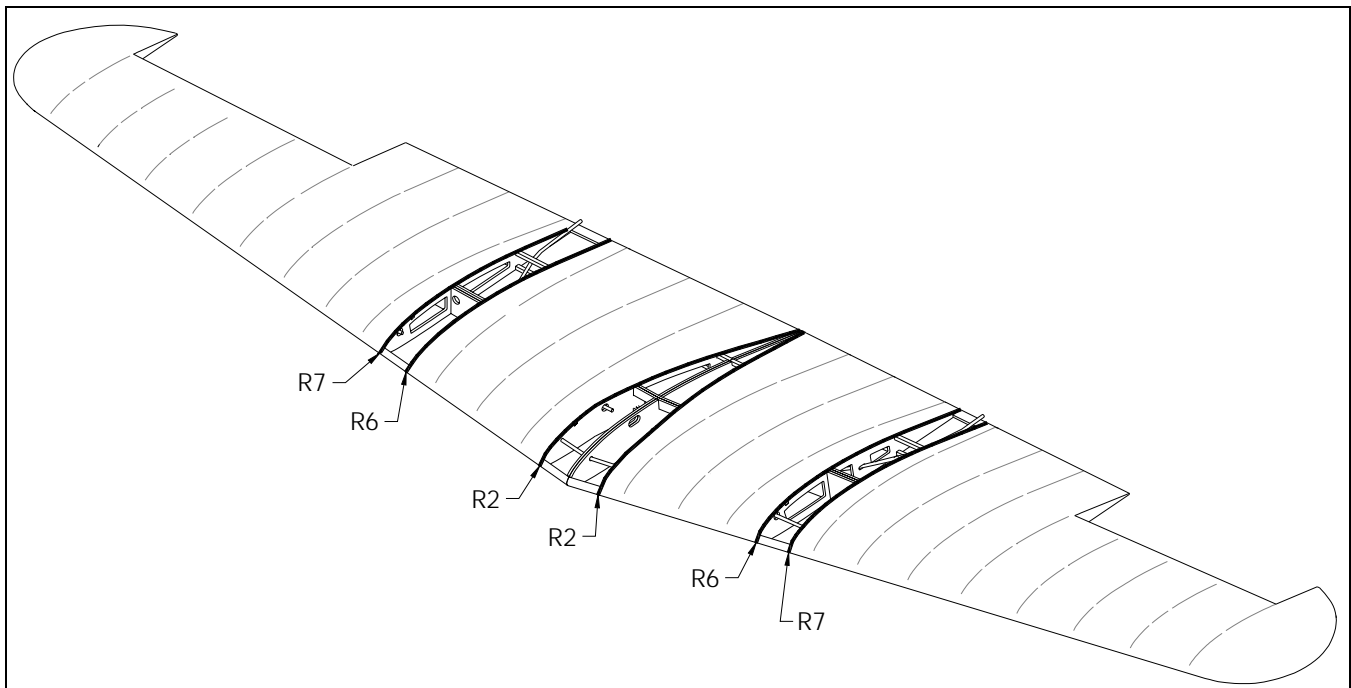

Figure 23
- Cover the entire wing except for the section between ribs **R6** and **R7**, and the section between both **R2**'s. Also, **DO NOT** cover the leading and trailing edge between these ribs. This is illustrated in Figure 23 and shown by bold lines. These areas interface the booms and fuselage.